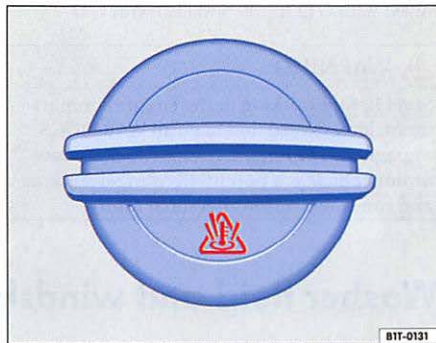

Fig. 9 In the engine compartment: cap of coolant expansion tank
- To prevent scalding, cover the cap ⇒ fig. 9 on the expansion tank with a thick cloth and carefully unscrew the cap ⇒